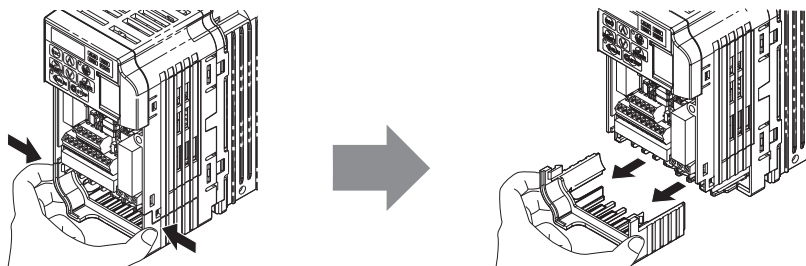
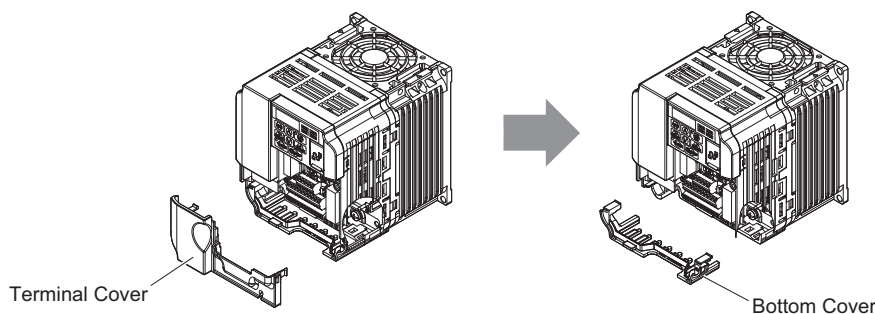

Figure 6 Remove the Bottom Cover on an IP20/Open-Chassis Drive (Models CIMR-V□BA0001B to BA0003B and 2A0001B to 2A0006B)
Figure 7 Remove the Terminal Cover and Bottom Cover on an IP20/Open-Chassis Drive (Models CIMR-V□BA0006B to BA0018B; 2A0008B to 2A0069B; 4A0001B to 4A0038B)
- For IP20/Open-Chassis models CIMR-V□□A□□□□B, remove the bottom cover of the drive by applying pressure to the tabs on each side of the bottom cover. Pull the bottom cover away from the drive while pushing in on the tabs to release the cover from the drive. Refer to **Figure 6** for details. Refer to **Figure 7** for drive models CIMR-V□BA0006B to BA0018B, 2A0008B to 2A0069B, and 4A0001B to 4A0038B, which require removing the terminal cover prior to removing the bottom cover.